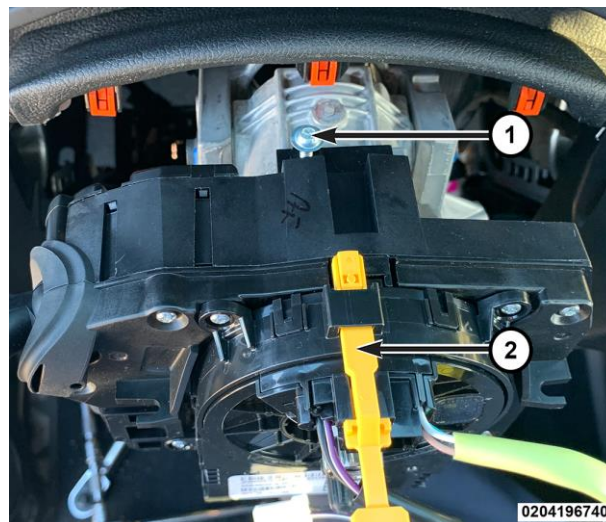

Figure 25 – SCCM
23. Remove the screws (1) (Figure 25 and 26).
4. Install and securely tighten the SCCM screws (1) (Figure 25 and 26).